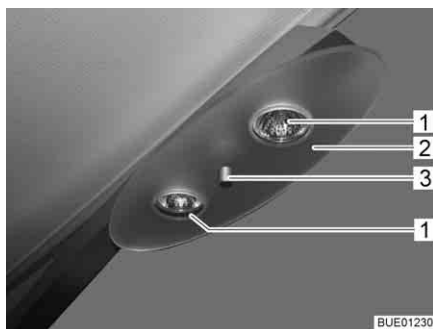

Fig. 188 Halogen ceiling lamp
- Unscrew retaining nut (Fig. 188,3) and remove cover plate (Fig. 188,2).
- Remove halogen bulb (Fig. 188,1).